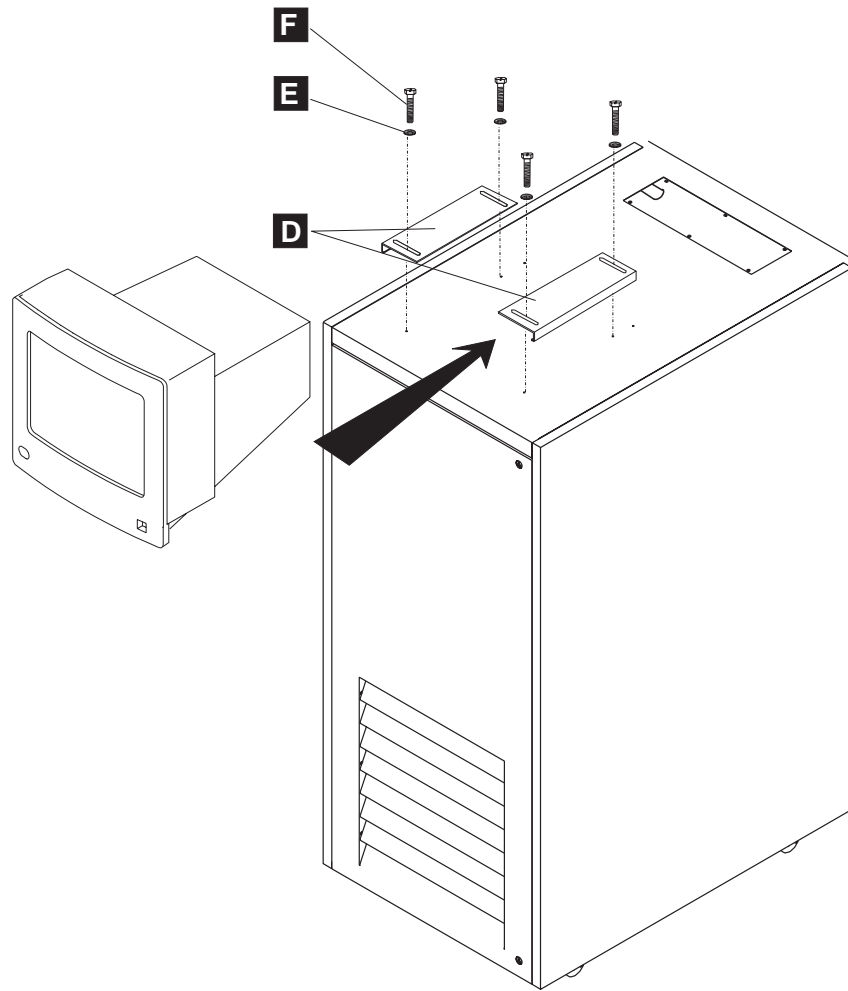

Figure 6-6. Safety Retainers Installation
- a. On the top of the 29 U rack install the safety retainers **D** (PN 02N1503) with screws **F** (PN 1621601) and star washers **E** (PN 1622336), see Figure 6-6 on page 6-5.